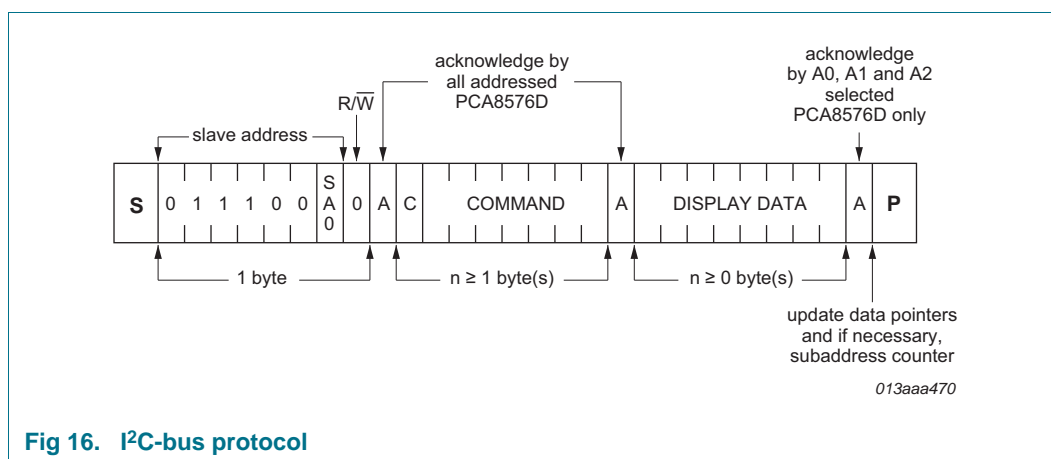

Fig 16. I²C-bus protocol
The I²C-bus protocol is shown in Figure 16. The sequence is initiated with a START condition (S) from the I²C-bus master which is followed by one of two possible PCA8576D slave addresses available. All PCA8576D whose SA0 inputs correspond to bit 0 of the slave address respond by asserting an acknowledge in parallel. This I²C-bus transfer is ignored by all PCA8576D whose SA0 inputs are set to the alternative level.